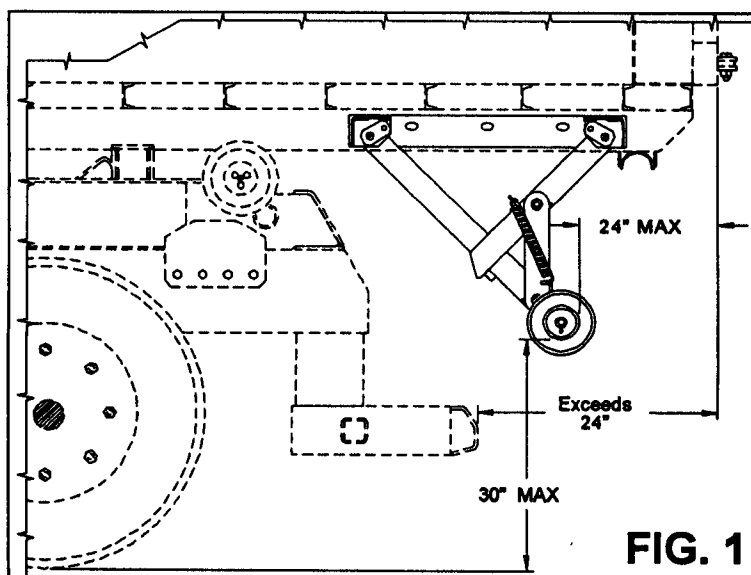
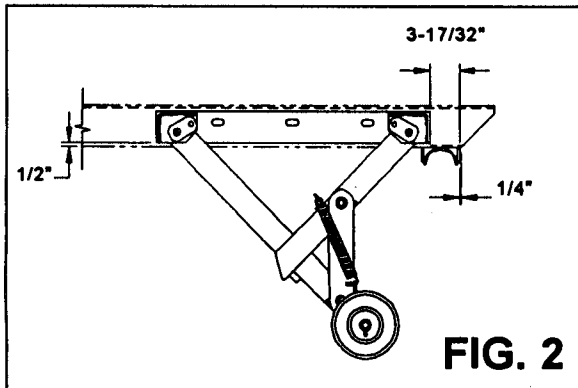

FIG. 1
FIG. 2
3. Measure the distance from the bottom of the truck frame to the ground (NOTE: This should be performed on a level surface). Based this measurement and the dimensions in Fig. 1, the vertical channel [P/N: 63H94] may need to be modified in length to meet the Office of Motor Carrier Safety (OMCS) regulations. Regulation 393.86 requires that no bumper be located more than 30" off the ground when the truck is empty, and the end of the bumper should not be located more than 24" from the extreme rear of the vehicle, including truck bodies (See Fig. 2). Once the length has been determined for the vertical channels, weld them to the truck frame (See additional notes on next page).
5. Weld the bumper weldment to the vertical channels (See Fig. 1 & 3).
2. Trim truck frame to indicated dimensions (See Fig. 1). These dimensions will facilitate the mounting of the rear light assembly if it is also being mounted.
4. Center the bumper weldment [P/N: 52H12] with factory installed extensions [P/N: 52H13] on the vertical channels [P/N: 63H94]. Position rear of bumper from rear of the hoist as indicated by the bumper location chart. This is crucial in order to ensure that the container longills do not contact the bumper during the dump cycle (See Fig. 1 & 2).
1. Review all directions and diagrams provided before starting bumper installation. Typically, a drop down bumper is needed when the rear of the container extends beyond the back of the truck such that the distance between the truck bumper and container rear exceeds 24" (See Fig. 1). Office of Motor Carrier Safety (OMCS) Regulation 393.86 requires that no bumper be located more than 30" off the ground when the truck is empty, and the end of the bumper should not be located more than 24" from the extreme rear of the vehicle, including truck bodies (See Fig. 1).
- Position drop down bumper on the longsills of the sub-frame (See Fig. 2 & 3). The mount brackets [Part No. 51H17] need to be positioned correctly to allow for sufficient room for bumper cradles [Part No. 51H19] (See Fig.2). Weld mount brackets onto the longsills of the sub-frame.
- Position bumper cradles [Part No. 51H19] on the longsills of the sub-frame. Check bumper cradles for squareness with respect to each other. The bumper tube [Part No.51H16] should come to rest within the bumper cradles when the container rests on the ground (See Fig. 2 & 3). Weld bumper cradles into place on longsills.
3. Weld the front [62H87] and rear [62H88] brackets to the support bars. Be sure to maintain the dimensions as indicated so that the bumper folds properly (See Fig. 2 & 3).